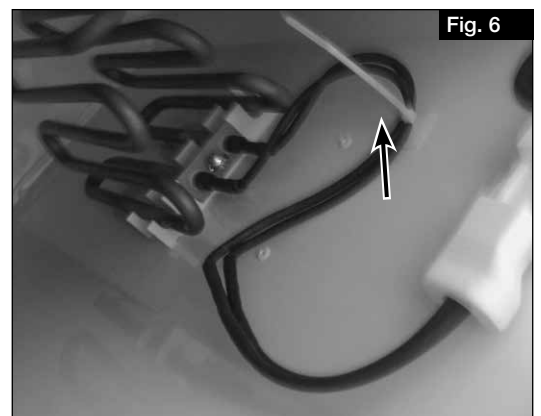

Fig. 6
7. Attach the electrical pre-heater connection cable to the unit wall with the provided cable ties (see Fig. 6).